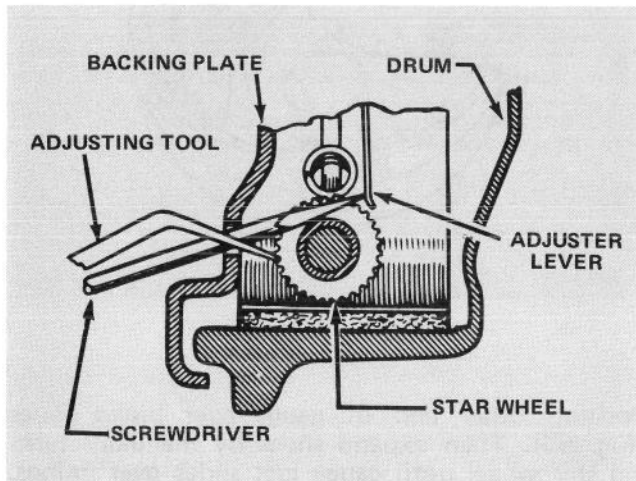

Figure 96
2. Remove wheel and drum. If shoes interfere with drum removal, hold adjuster lever away from star wheel (Fig. 96) while backing off adjustment.
Back off star wheel until drum is free of drag (20 to 30 notches). Use a screwdriver (Figure 96) to hold adjuster lever away from star wheel while backing off adjustment.